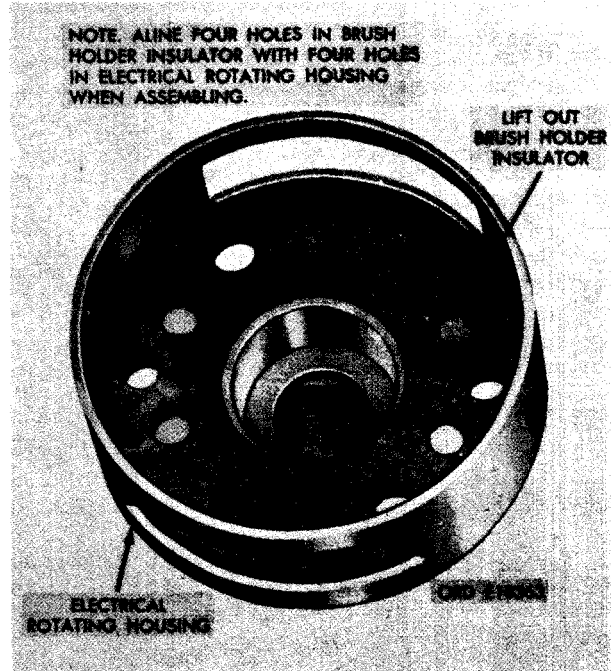

FIGURE 436. REMOVING OR INSTALLING BRUSH HOLDER INSULATOR.
- (4) Remove brush holder insulator. Refer to figure 436 and remove brush holder insulator.